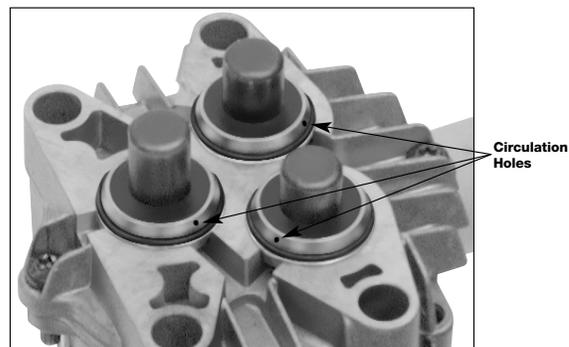

figure 19
7. Place bushing back on piston. Circulation holes must line up in the 12 o'clock position. (figure 19)